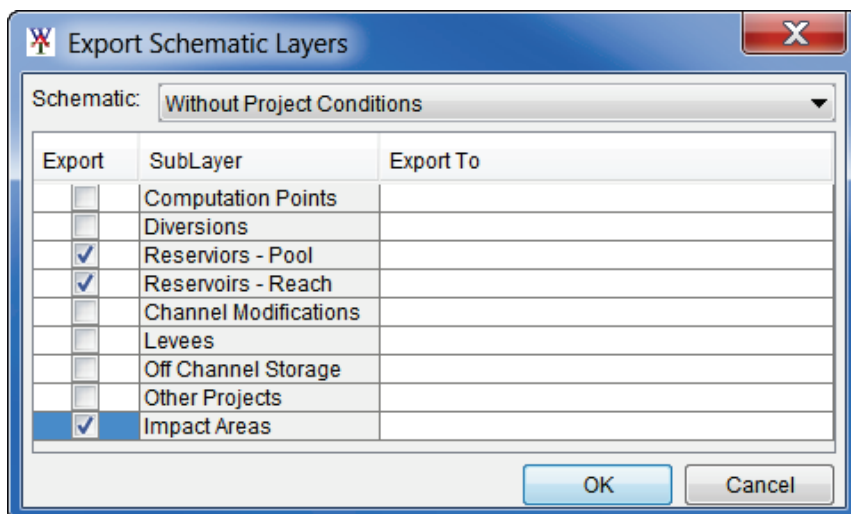

Figure 5.25 Export Schematic Layers Dialog Box
**Export Schematic** – opens the **Export Schematic Layers** dialog box (Figure 5.25) which allows the user to export the selected elements for the active **Schematic Layer** to shapefiles.